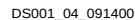

**Figure 4: Spartan-II CLB Slice** (two identical slices in each CLB)
The basic building block of the Spartan-II FPGA CLB is the logic cell (LC). An LC includes a 4-input function generator, carry logic, and storage element. Output from the function generator in each LC drives the CLB output and the D input of the flip-flop. Each Spartan-II FPGA CLB contains four LCs, organized in two similar slices; a single slice is shown in Figure 4.